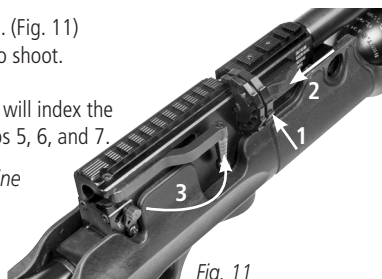

Fig. 11
4. Push forward the magazine release bolt. (Fig. 8) Insert the magazine into its slot from the right. (Fig.11)
5. Unlock magazine release bolt by sliding backwards. (Fig. 11). If necessary rotate the magazine counter-clockwise until its movement is arrested by the magazine stop.
6. Close the cocking handle and ensure that it lays flat against the rifle. (Fig. 11)